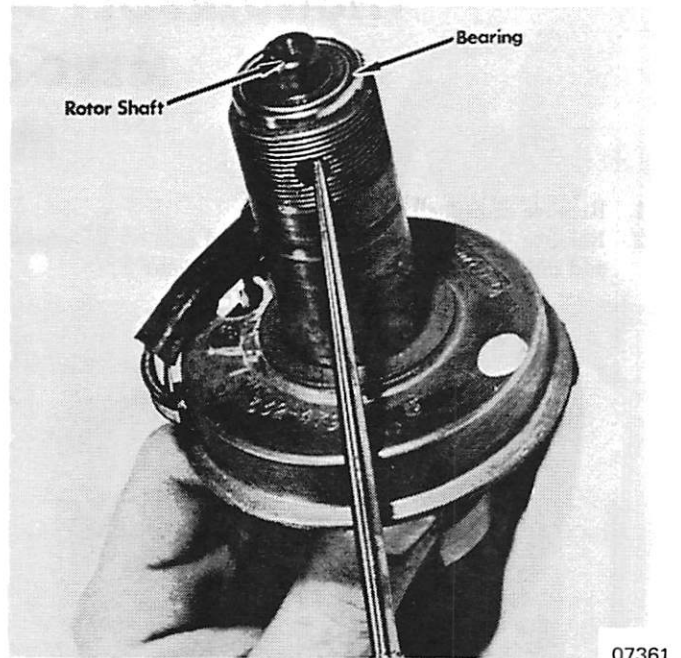

Figure 5. Removing Rotor Shaft Bearing
5. Remove upper ball bearing from distributor housing by pressing on the outer race of the bearing thru hole on each side of housing. DO NOT press against ball bearing retainer. (Figure 5)